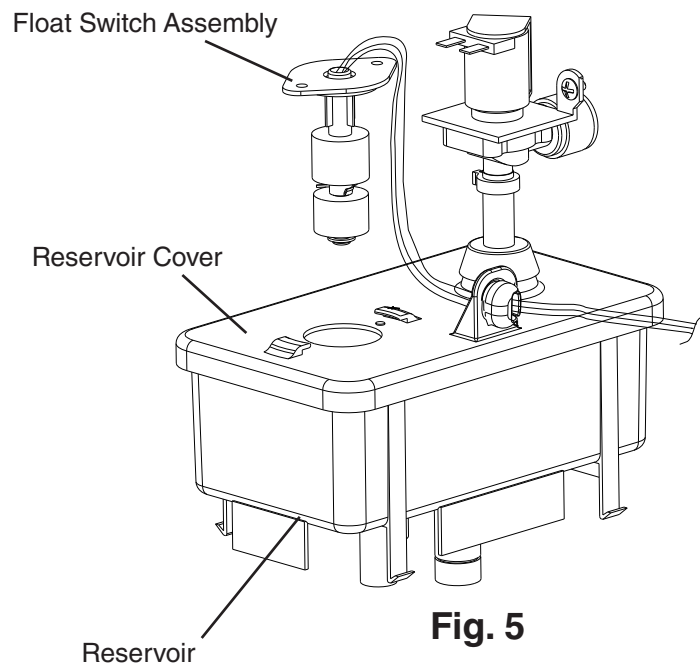

Fig. 5
- 4) Disconnect the FS moxex plug from the control box and check continuity across FS wires. (BK) to (R) for UFS and (BK) to (BU) for LFS. See Fig. 5. With the water reservoir empty, FS switches are open. If open, continue to step 5. If closed, follow the steps in "III.B.5.b) Float Switch Cleaning." After cleaning the floats, check them again. Replace if necessary.
- 8) Disconnect the FS moxex plug from the control box and check continuity across FS wires. (BK) to (R) for UFS and (BK) to (BU) for LFS. With the water reservoir full, FS switches are closed. If open, follow the steps in "III.B.5.b) Float Switch Cleaning." After cleaning the floats, check them again. Replace if necessary.
- 3) Remove the float switch assembly from the reservoir cover. See Fig. 5.